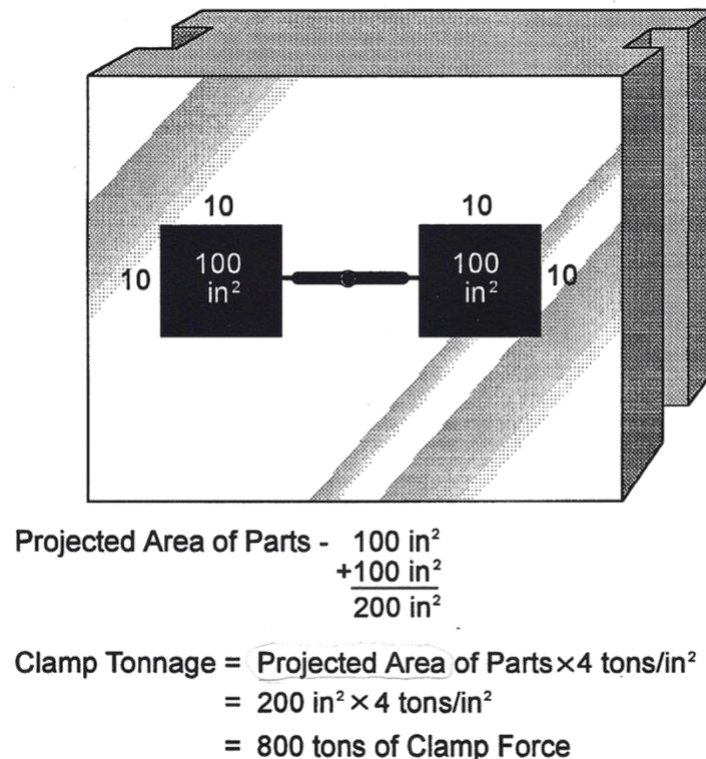

Figure 3 - Clamp Force
runner(s) by four (4) tons per square inch to get the clamp tonnage (Figure 3).